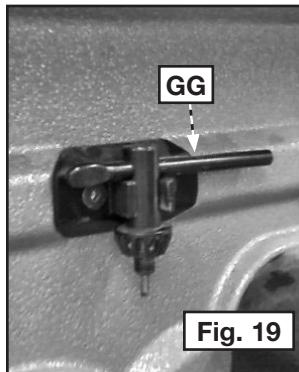

Fig. 19
Storage for your included chuck key (GG) is built into the right side of the drill press head stock. Press chuck key into the holder as shown in Figure 19.